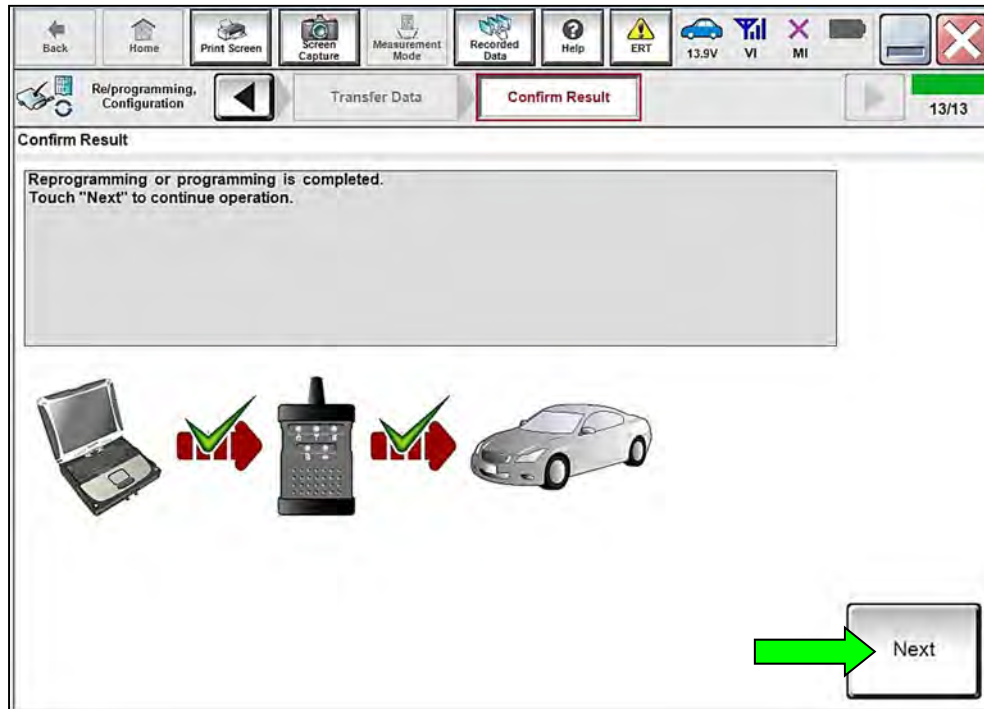

Figure 13
- If the screen in Figure 13 does not display (indicating that reprogramming did not complete), refer to the information on the next page.